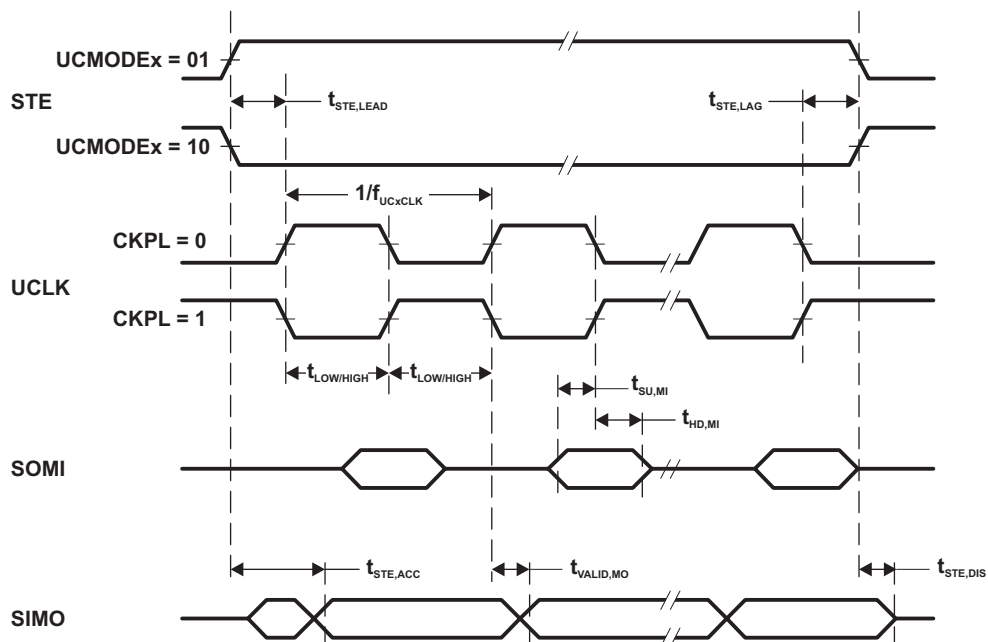
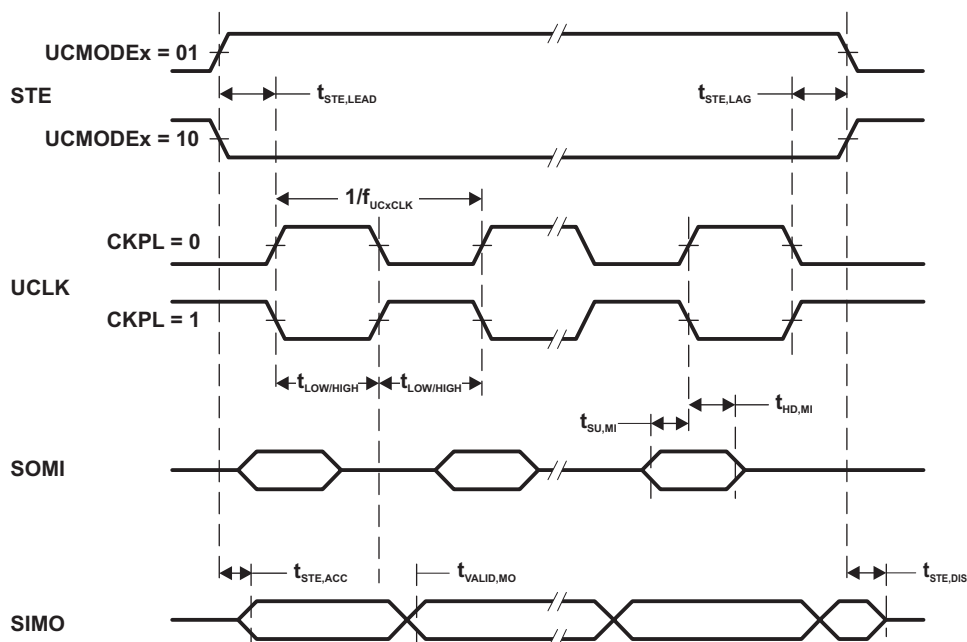

Figure 4-6. SPI Master Mode, CKPH = 0
Figure 4-7. SPI Master Mode, CKPH = 1
- (1) $f_{UCxCLK} = 1/2t_{LO/HI}$ with $t_{LO/HI} = \max(t_{VALID,MO(eUSCI)} + t_{SU,SI(Slave)}, t_{SU,MI(eUSCI)} + t_{VALID,SO(Slave)})$. For the slave's parameters $t_{SU,SI(Slave)}$ and $t_{VALID,SO(Slave)}$ see the SPI parameters of the attached slave.
- (2) Specifies the time to drive the next valid data to the SIMO output after the output changing UCLK clock edge. See the timing diagrams in Figure 4-6 and Figure 4-7.
- (3) Specifies how long data on the SIMO output is valid after the output changing UCLK clock edge. Negative values indicate that the data on the SIMO output can become invalid before the output changing clock edge observed on UCLK. See the timing diagrams in Figure 4-6 and Figure 4-7.